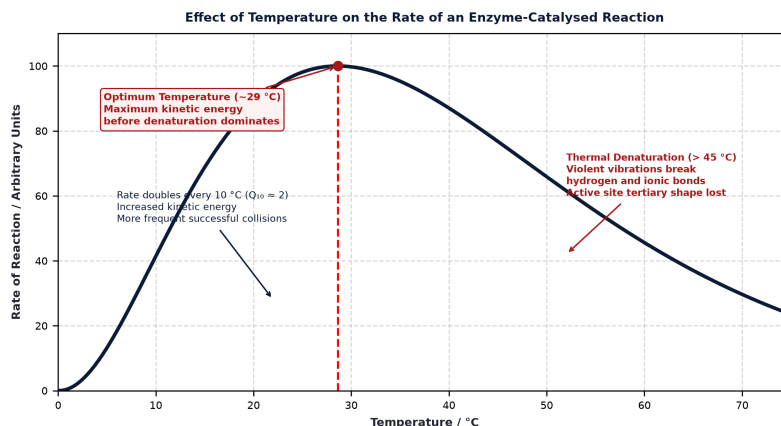

Fig. 3.5: Effect of temperature on initial reaction rate showing optimum and thermal denaturation.
The activity of an enzyme was measured across a temperature range of 0 deg C to 75 deg C. Fig. 3.5 shows the resulting rate curve.
- (b) Identify the optimum temperature from Fig. 3.5 and define what is meant by optimum temperature. [2]